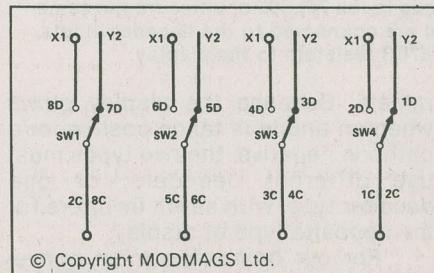
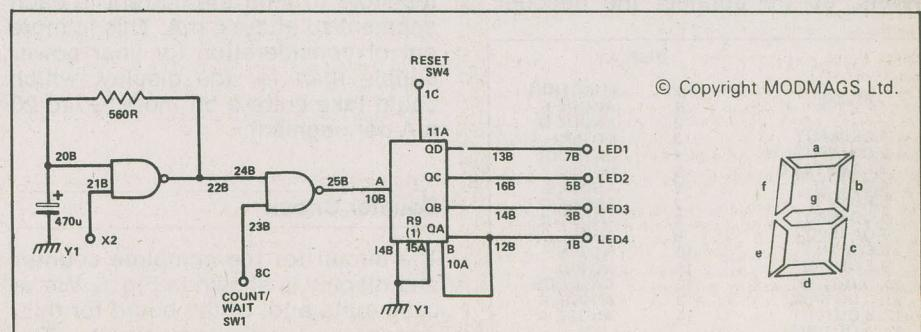

Fig. 2 The conventional switch arrangement — a reminder.
Fig. 3 A clock-pulse oscillator driving the decade counter through a gate. The outputs of the counter are taken to LEDs.
to provide clock pulses, and make sure that all the switches are wired as they were at the beginning, so that up gives logic 1 and down gives logic 0 — Fig. 2 is a reminder of this switch wiring. Now make the connections which are needed to use the 74LS90 as a decode counter, displaying its count on the LED's. The circuit is shown in Fig. 3. One of the spare gates of the 74LS132 is used to control the clock pulses, so that SW1 acts as a count/wait switch. Switch SW4 is wired to the reset (0), terminal, so that the counter can be reset with this switch up.
Fig. 5 Counter-decoder-display circuit. Connections to the 74LS90 counter are the same as they were in Fig. 3, but the outputs Qa to Qd are connected to the decoder inputs, and the decoder output are connected through 470R resistors to the display.